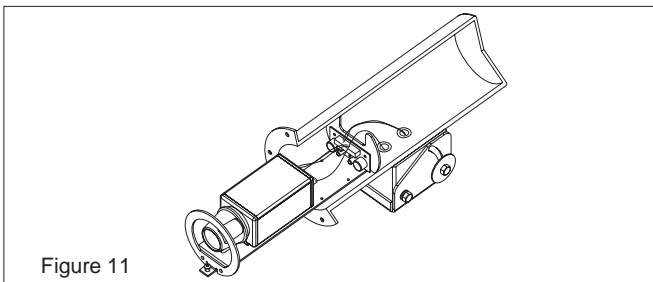

Figure 11
14. Once you have completed all of the wiring, make sure the wires go over the back wall of the camera sled. Slide the camera sled back into the housing (Figure 11).